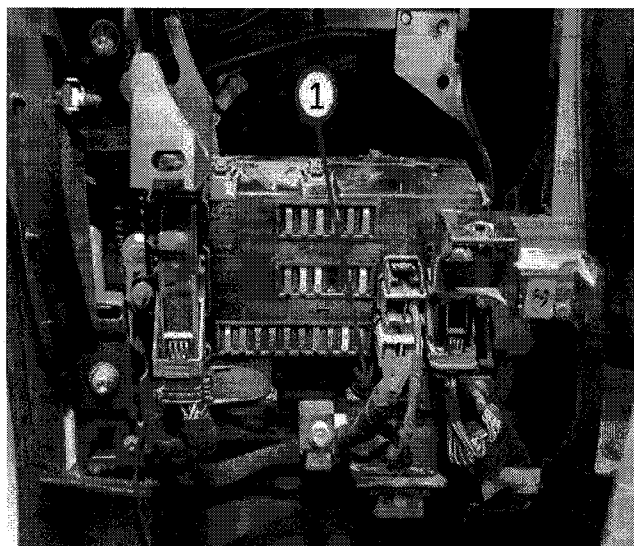

Fig. 14 BCM Connector C4 Location
18. Locate and remove BCM connector C4 which is located on the front of the module (See Figure 14).